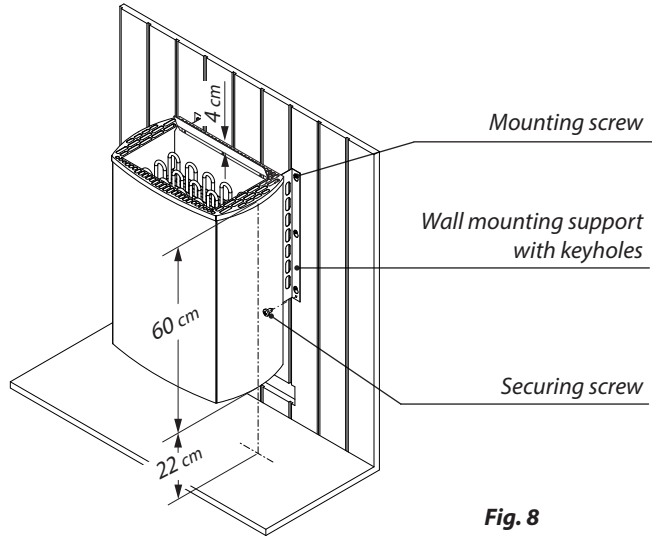

Fig. 8
- Now you can hook the keyholes of the sauna heater onto the spax screws that are fitted into the cabin wall. Then secure the heater with two securing screws on the lower side of the mounting supports. (Fig. 8).